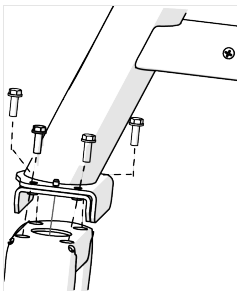

Figure 1
3. Position the display mount on top of the base frame (Figure 1) and attach it using four bolts **1**. Tighten all bolts to 180 in-lb (20 N-m) of torque.